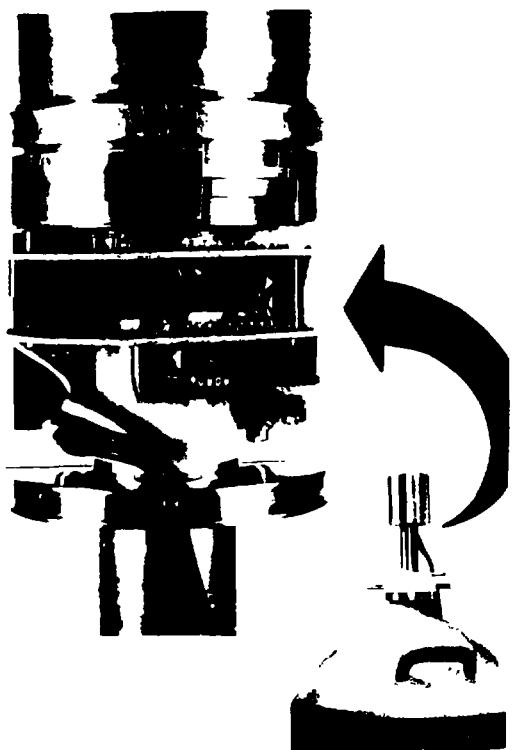

Fig. 12.7: Streamlined detector-preamplifier setup
- (i) The ORTEC detectors are recognized by their shape: the preamplifier is integrated in the cylinder of the detector head, see Fig. 12.7. This streamlined solution is practical for some measurements where the detector must be inserted in a measuring chamber, and the protruding preamplifier is an obstacle. These detectors are somewhat more difficult to service and repair.